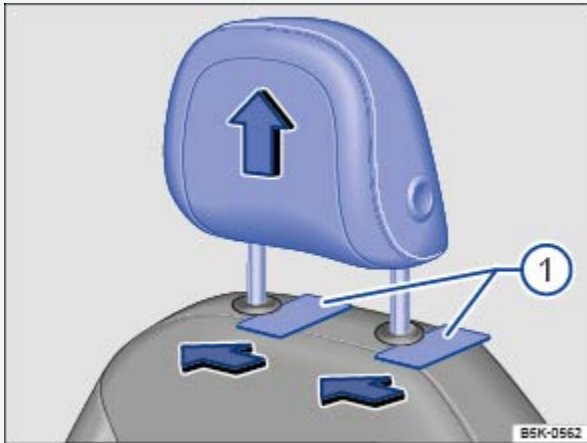

Fig. 46 Removing the front head restraints.
- Slide a flat object, such as a plastic credit card, underneath the right side of the cap (left side if sitting behind the head restraint) on the right-hand seat guide rod ⇒ Fig. 46 to unlock the head restraint.
- Push the head restraint down ⇒ *Fig. 46*.